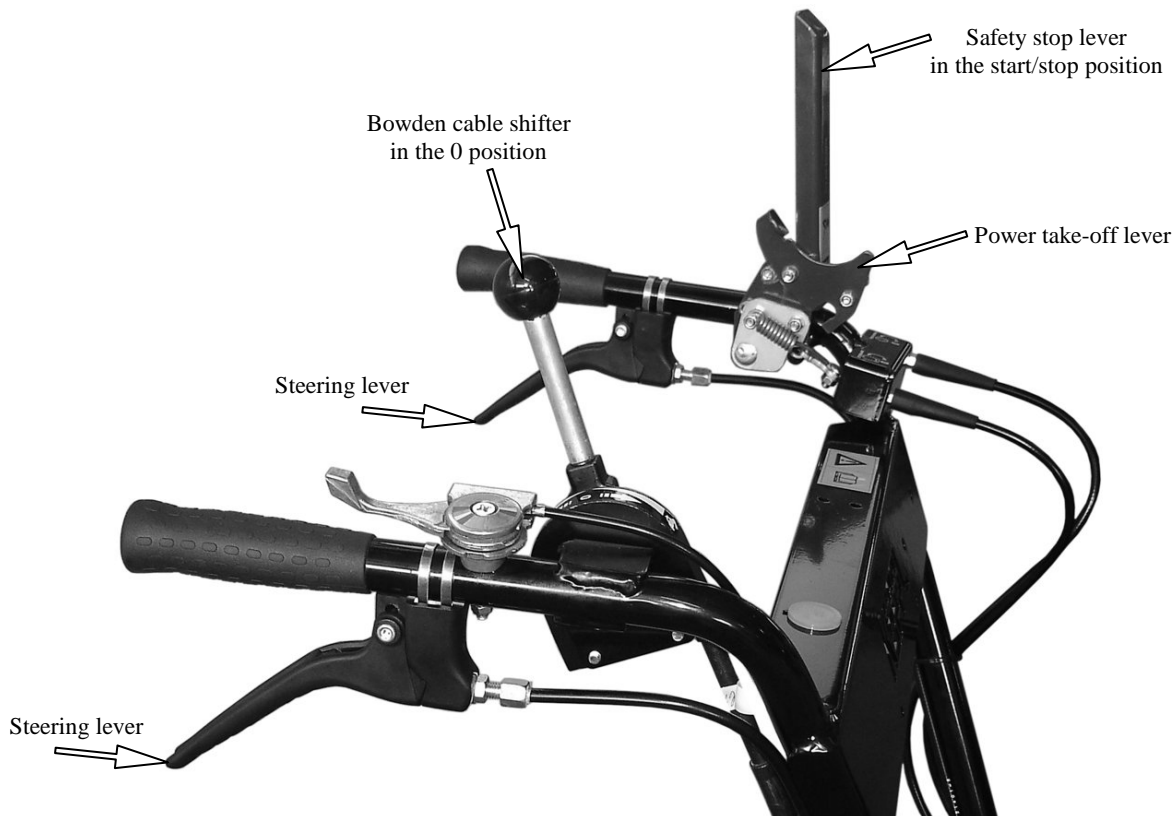

Fig. 6. Bowden cable shifter for forward/reverse shifting.
- Before starting the machine, the Bowden cable shifter must be placed in the 0 position and the safety stop lever must be placed in the start position - see *fig. 6*.